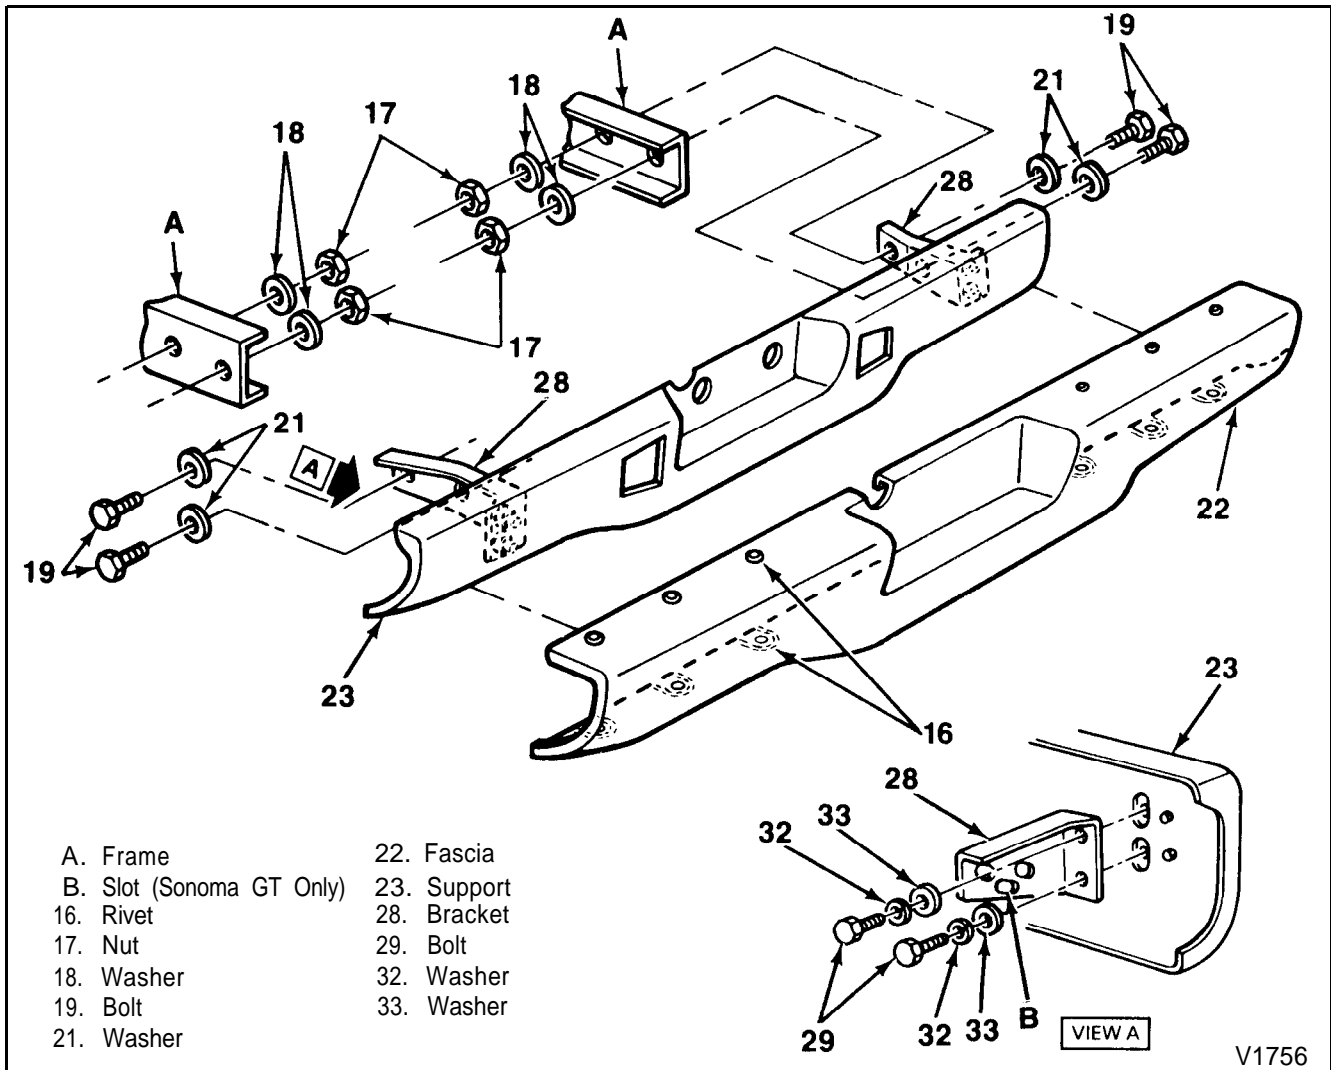

Figure 2-Rear Bumper
#### Remove or Disconnect (Figure 2)
**Install or Connect (Figure 2)**
1. Brackets (28) if removed, by installing bolts (29) and washers (32 and 33).
3. Bolts (19) and washers (21).
4. Washers (18) and nuts (17).
**Remove or Disconnect (Figure 2)**
2. Fascia (22) from support (23).
- Drill out plastic rivets (16) using an 1/8-inch drill bit.
1. Fascia (22) to support (23).
- Install new plastic rivets (16).